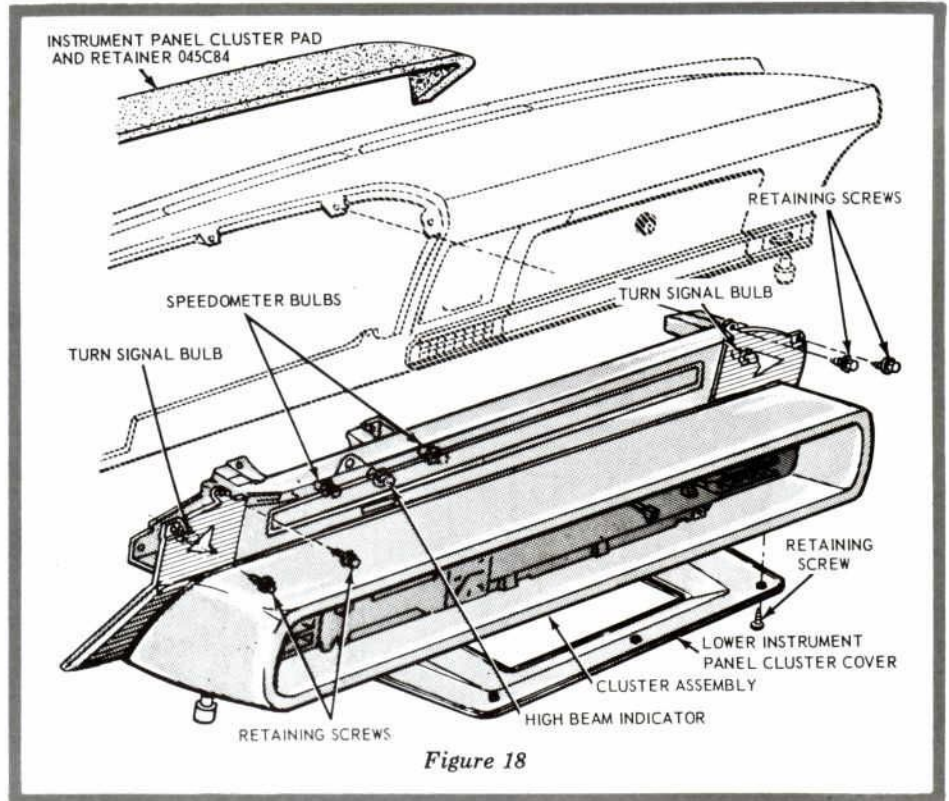

Figure 18
5. Remove the retaining screws and remove the instrument panel cluster pad and retainer. See Figure 18.